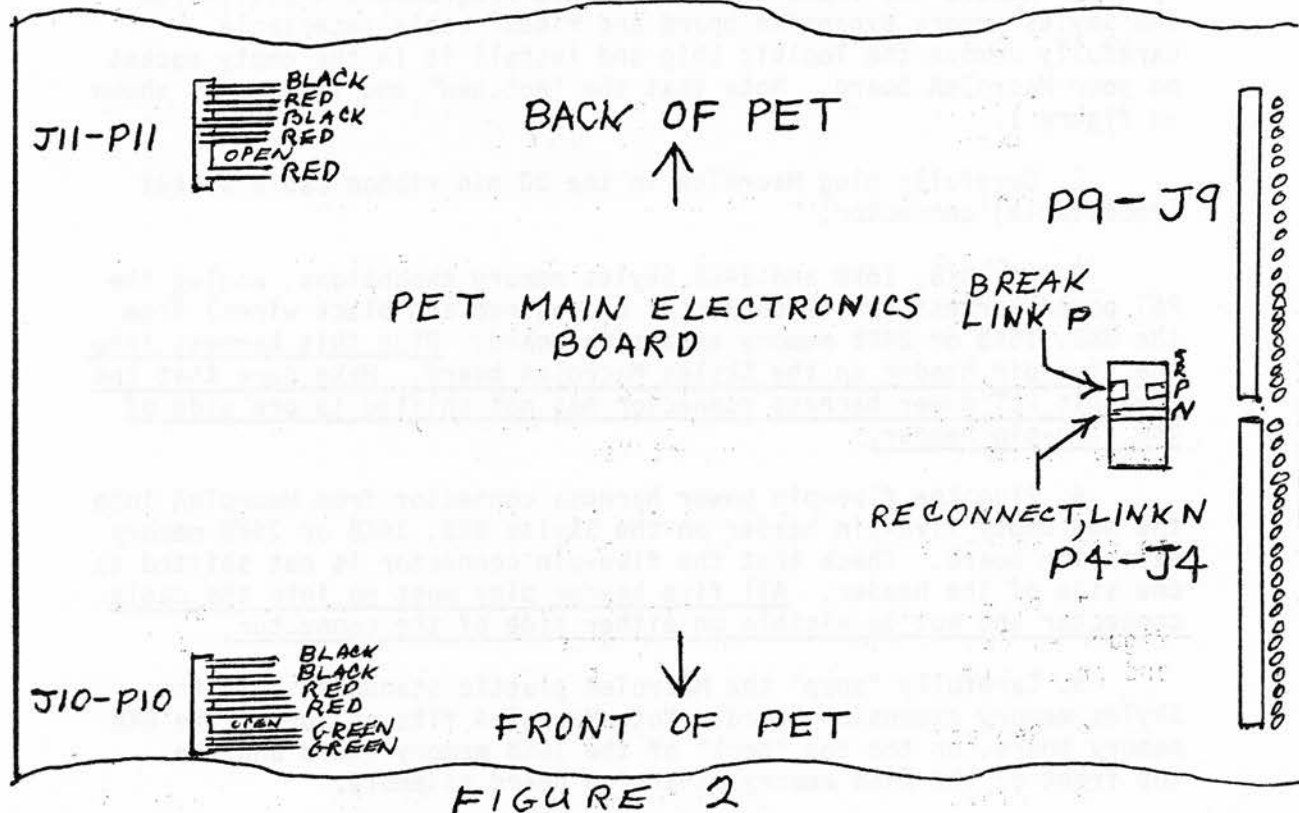

FIGURE 2
2. On the right side of the PET main electronics board located in the back near J9 is a jumper plug (see figure 2 for location). With a pair of clippers or a sharp pointed blade break link "P". With the small piece of bare wire (furnished) and a soldering iron reconnect link "N" just in front of P.